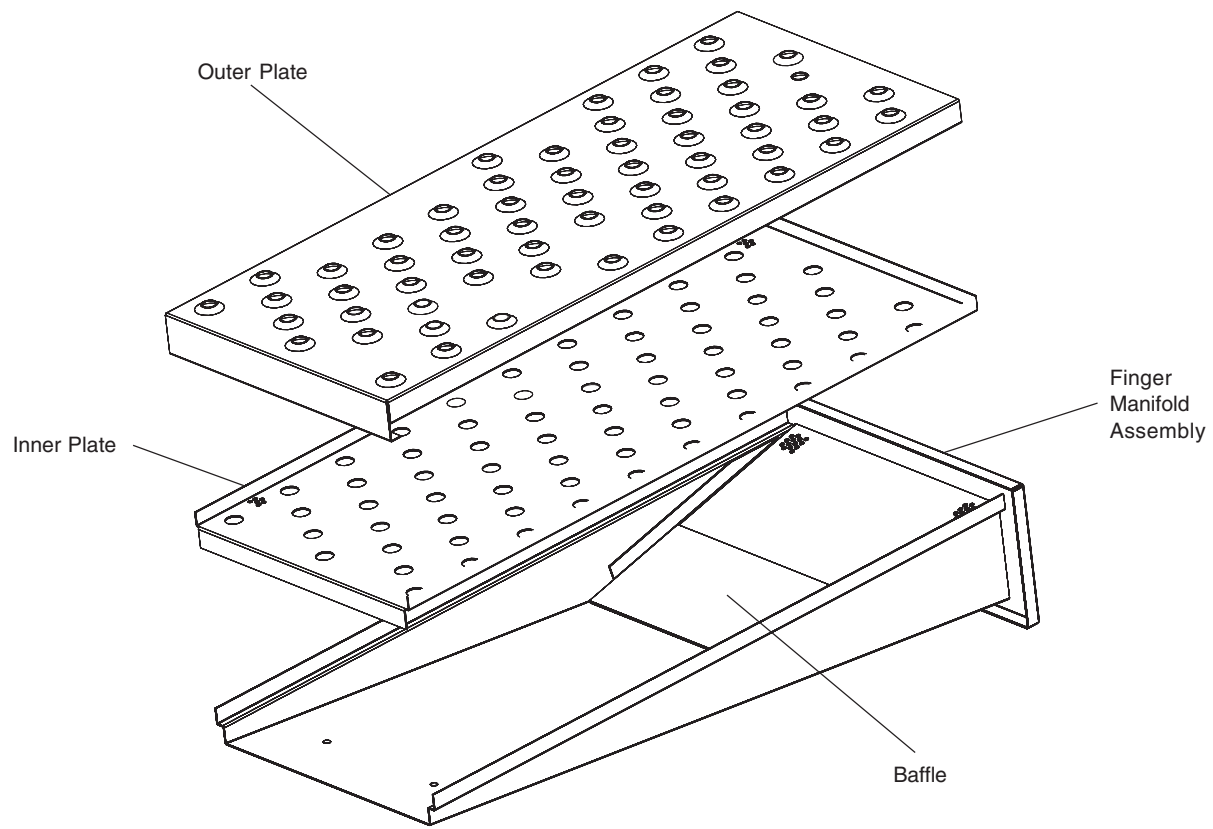

Figure 1-7. Air Finger.
D. Air Fingers - See Figure 1-7